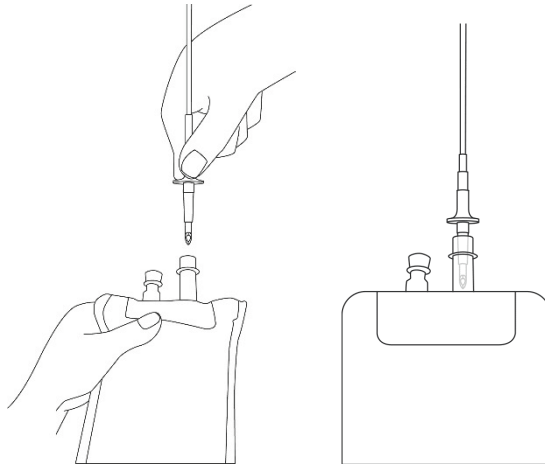

Figure 11: Insert Bag Spike into IV Bag
7. Push and twist the bag spike into the administration port of the IV bag. See Figure 11.